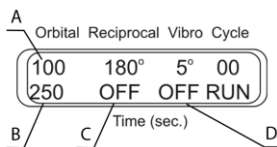
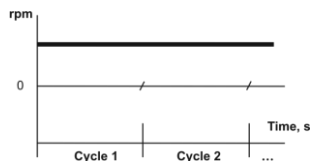

Figure 4
Figure 5
- 6.9.1 **3D orbital** (figure 4). Most popular kind of motion. Set the speed (**A**, 1–100 rpm) and time (**B**, 1–250 s) of 3D orbital motion. Turn off 3D reciprocal motion by setting time of 3D reciprocal motion to zero (**C**, OFF). Turn off 3D-Vibro type motion by setting time of 3D vibro motion to zero (**D**, OFF). Figure 5 shows 3D orbital motion run in cycles.